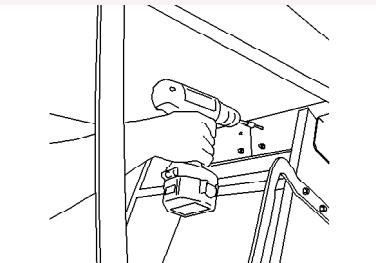

fig 15
5. From a step ladder or saw stool or similar (not the attic stair), fix the hinge end of the stair to the ceiling framing through the two outer predrilled holes in the hinge plates (figure 15). Use the 65mm Timbertight screws supplied or something similar. Do not fit tight yet.